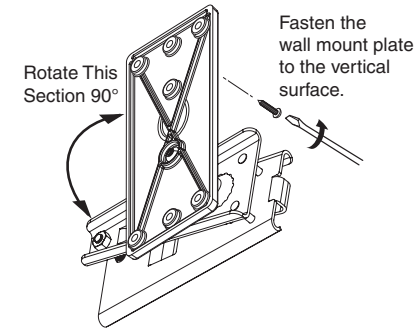

Figure 3 — Rotating and mounting the wall mount assembly
2. Remove the wall mount assembly from the box and loosen the hex cap screw (by turning it counter clockwise) with the allen hex tool supplied. Rotate the front section approximately 90 degrees to the rear mounting plate (see figure 3) and tighten the hex cap screw, locking the plate in position. This will make the next steps easier to perform.